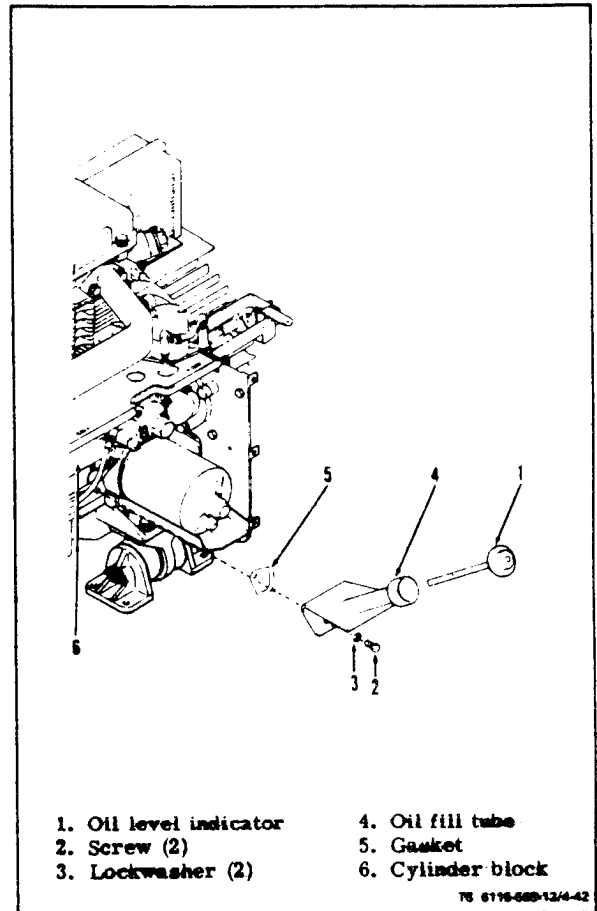
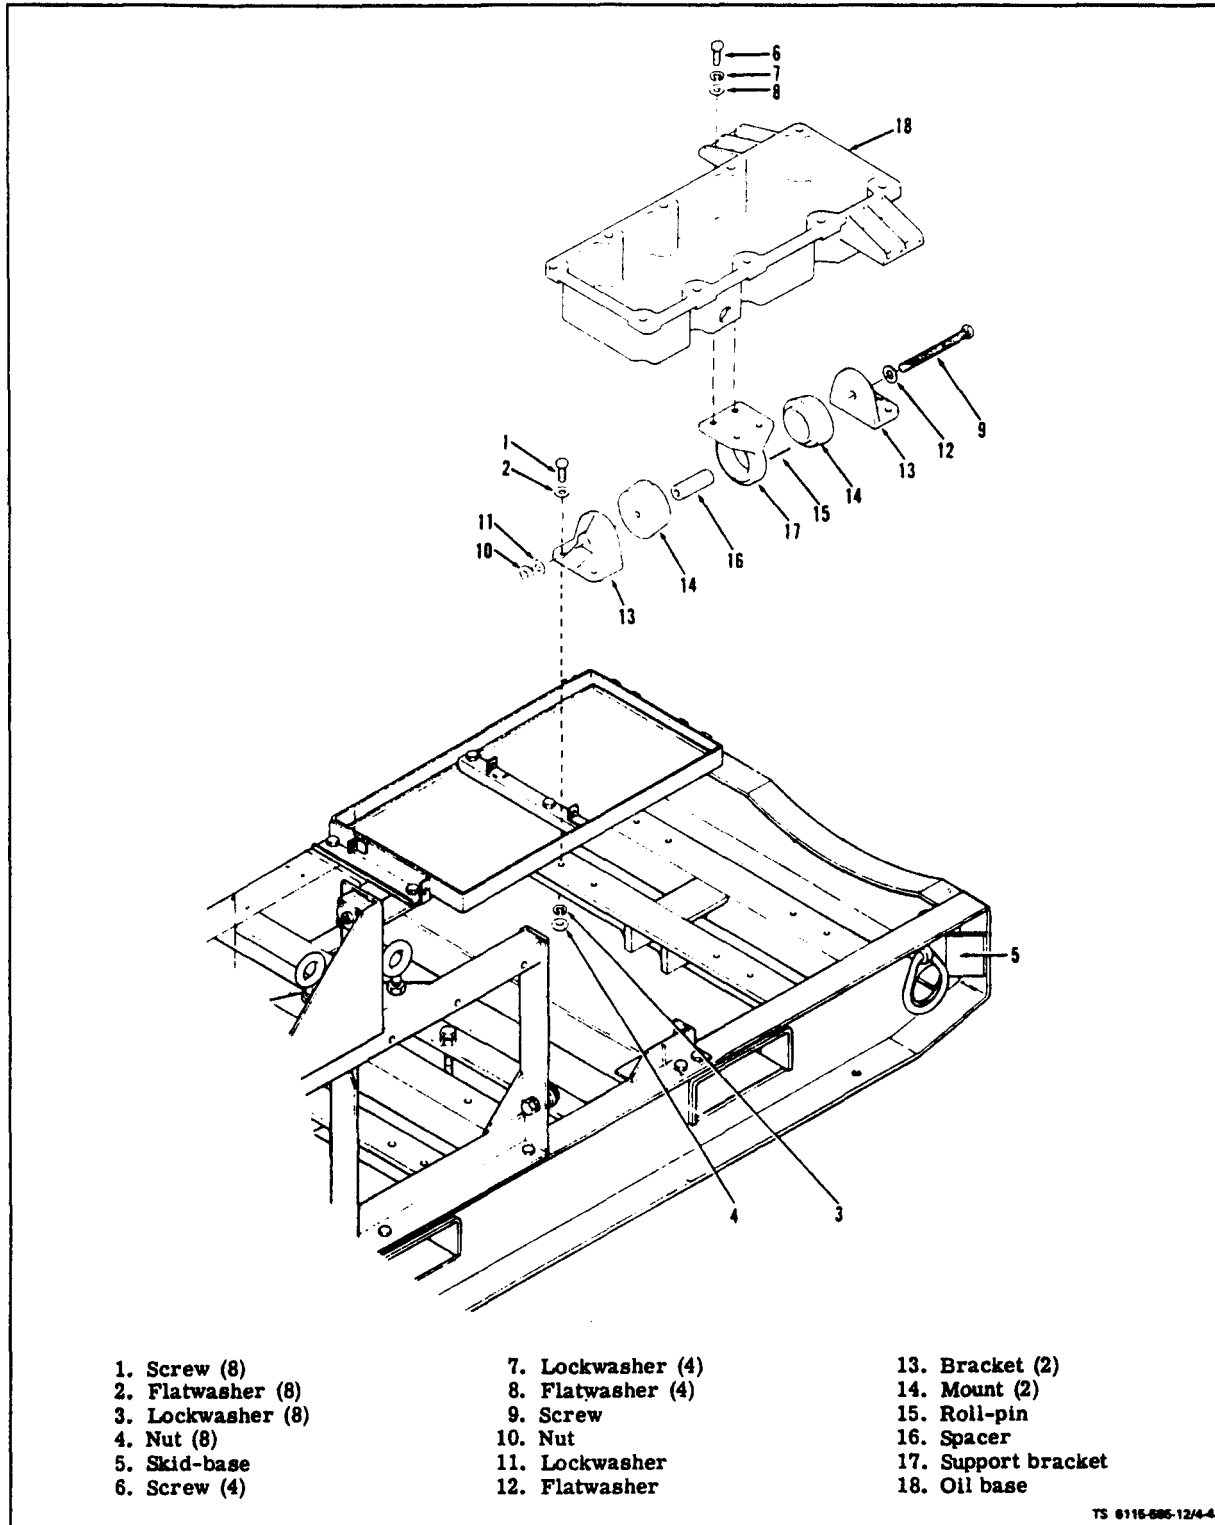

Figure 4-42. Oil Fill Tube
Figure 4-43. Engine Mounting Assembly
a. Remove (see figure 4-42). On ASK equipped generators, remove oil access door. Remove oil level indicator (1). Remove screw (2), and lockwasher (3). Remove oil fill tube (4) and scrape gasket (5) from mating surface on cylinder block (6) and oil fill tube (4).
b. Installation. Install gasket (5) between oil fill tube (4) and cylinder block (6). Attach oil fill tube (4) with screw (2) and lockwasher (3). Install oil level indicator (1) in oil fill tube (4).
a. Inspect (see figure 4-43). On ASK equipped generators, remove ASK cover assembly (para. 5-3). Check to see that mounting nuts and bolts are tight. Check rubber mounts (14) for cracks and breaks.
b. Remove. Use engine lifting assembly to remove weight off of mounting assembly and remove screws (1), lockwasher (3), flatwasher (2) and nuts (4) that secure each mounting assembly to skid-base (5). Remove screws (6), lockwashers (7) and flatwashers (8) and remove mounts.